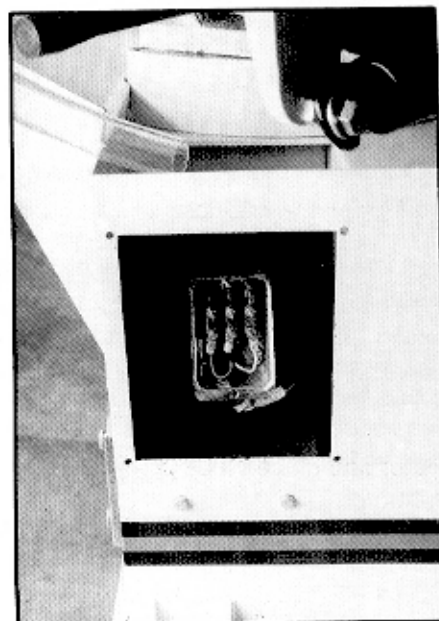

Fig. 4
- **Coolant Pump** - Remove access panel on right side of saw, remove junction box cover on pump, and follow diagram inside junction box cover. See Fig. 4